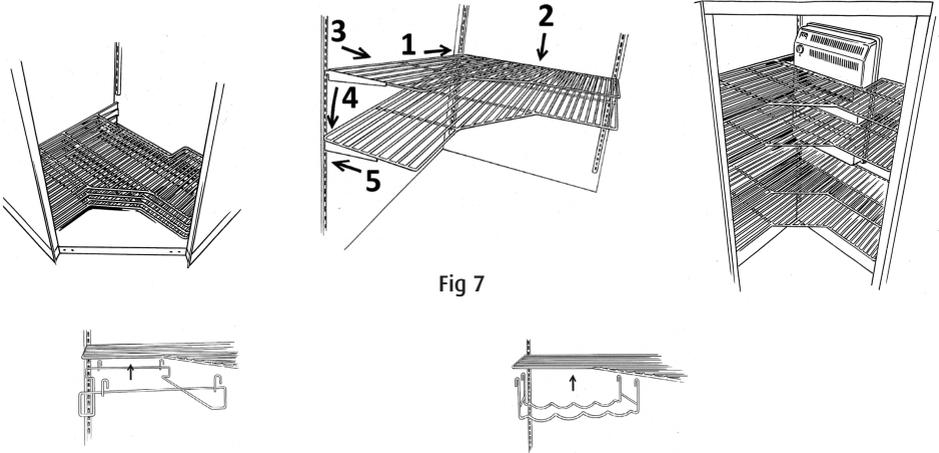

Fig 7
8. Place the shelves on the floor in the corner, ensuring that those with a cut-out for the unit are at the top. Then secure the top shelf by tilting the shelf upwards to the left, fitting it into the 2 uprights on the wall of the unit. Hold down the shelf and secure it to the uprights, while pulling it towards you at the other end so that it engages in the groove on the third upright at the same height (see the middle illustration in Figure 7 below) Continue in the same way with the other shelves.
Keep a good distance between the floor and the bottom shelf to permit storage of crates etc. Make sure that the second shelf from the top does not interfere with the dust filter tray on the unit. Hang up the holder for bottles and breakfast tray. (Fig 7)